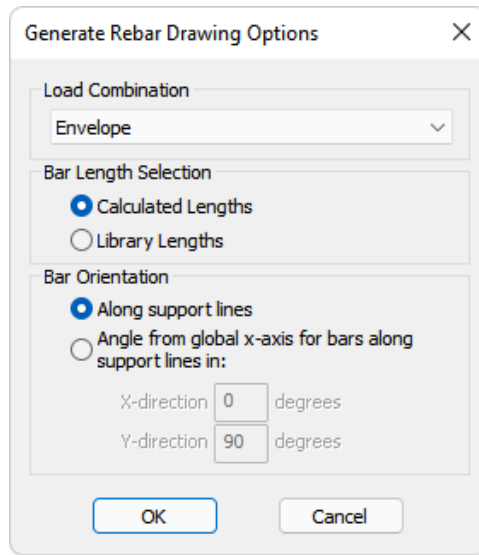

FIGURE 10-29
- Go to *Floor Design* → *Rebar* and click on the **Calculated Rebar Plan**  icon, this will bring up the *Generate Rebar Drawing Options* window shown in **FIGURE 10-29**.